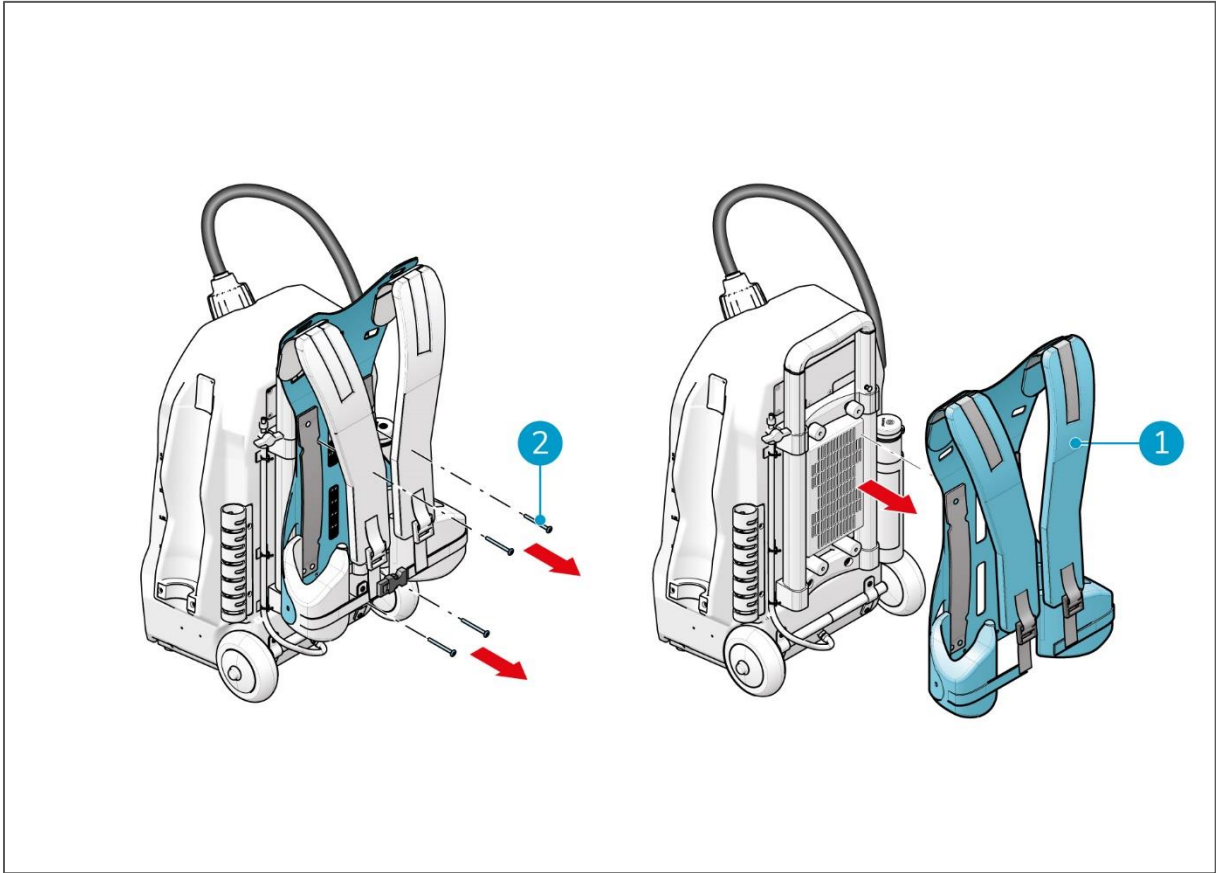

Figure 9
2. Unscrew the four screws (Figure 9, pos 2) using a Philips screwdriver.
3. Remove the back plate (Figure 9, pos 1).